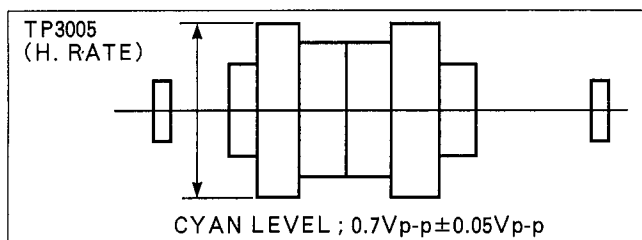

Figure E11
2. Adjust VR3201 so that the cyan level becomes 0.7Vp-p \pm 0.05Vp-p as shown in Figure E11.